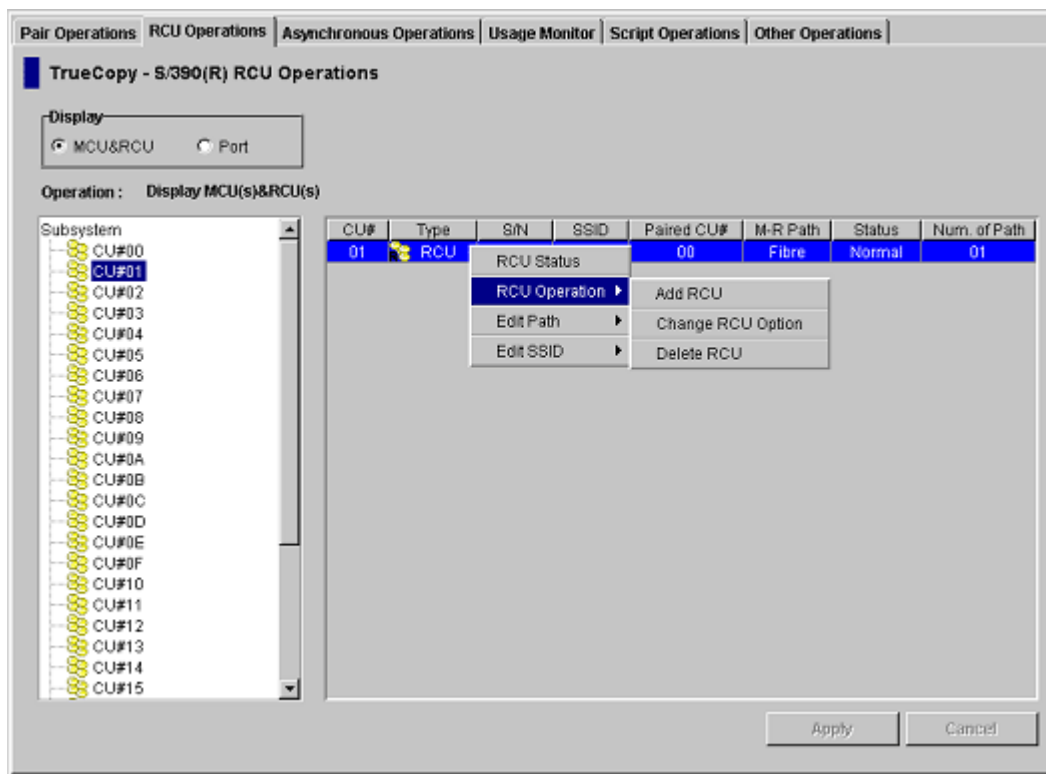

Figure 45 MCU/RCU list with the RCU Operation command
5. From the pop-up menu, click **RCU Operation** and then click **Add RCU** (see Figure 45). The Add RCU window is displayed.